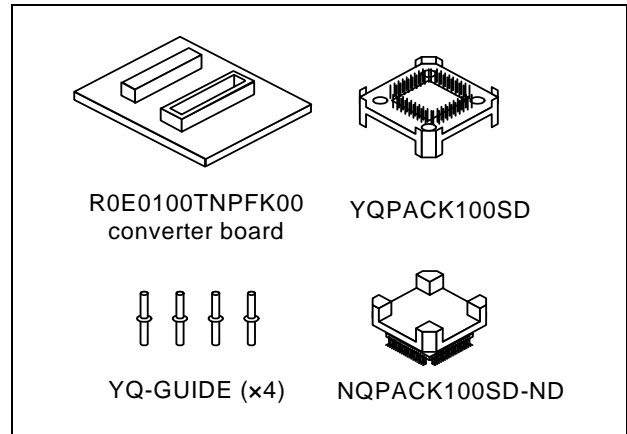

Figure 1 Package components of the R0E0100TNPFK00
2. Package Components (See Figure 1)